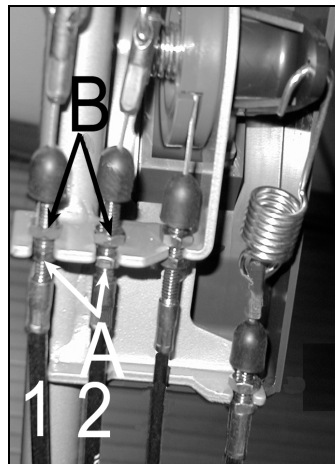

Figure 17-1
Transmission adjustment (figure 17-1, 17-2) :
- **Wire #1 :** unscrew nut « A » (fig 17-1, 17-2). Screw adjusting nut « B » to increase the efficiency. When adjustment is performed screw again nut « A ».